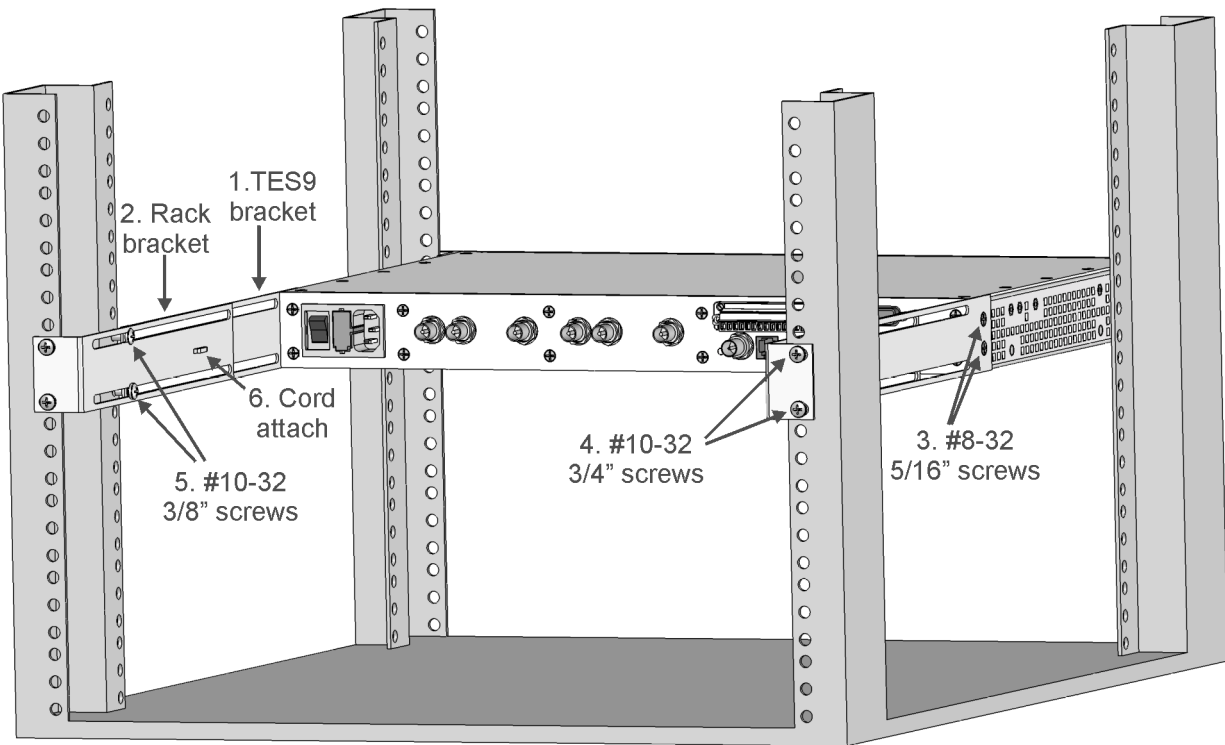

Figure 4: TES9 Rear View: Rack-mounting Detail
This section describes how to mount the TES9 in the rack. In using these instructions, consult Figure 4. Note that the TES9 should be attached to both the front and rear of the rack; because of the weight of the potentially large number of cables connected to the rear of the TES9, rear rack mounting is strongly advised.
1. Attach the rear TES9 brackets (41-10437-01) to both sides of the chassis using the mounting holes near the rear of the TES9. Use the #8-32 flat-head screws, and insert them through the countersunk holes in the bracket into the mounting holes on the TES9. See item 3 in Figure 4.
5. Attach the two rear rack brackets (41-10438-01) to the nut clips installed in the preceding step, using two 3/4" #10-32 screws for each bracket. See item 4 in Figure 4. Before tightening the screws, ensure that these brackets contact the *inner* side of the brackets mounted to the TES9; that is, they should be closer to the center of the rack than the ones on the TES9. The slots in these brackets should also be approximately aligned with the screw holes in the TES9 brackets.
6. Install two 3/8" #10 screws through the slots in each rear bracket into the captive nuts near the rear end of the TES9 brackets. See item 5 in Figure 4.
8. Insert a tie-wrap through the strain relief bridge on the rack bracket near the TES9 power entry module; see item 6 in Figure 4. Pass the tie-wrap around the power cord and tighten it to prevent the power cord from being inadvertently pulled out of the TES9.